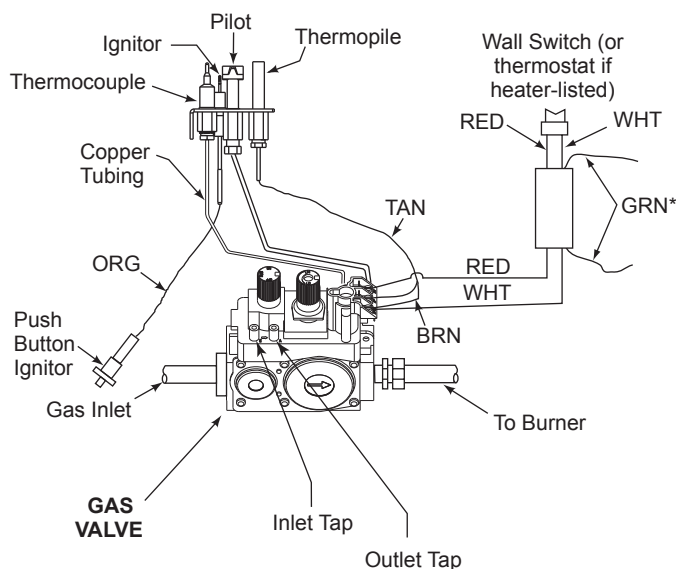

Figure 10.3 Standing Pilot Ignition Wiring Diagram
- It is recommended that a 110 VAC junction box be installed with a switched outlet for the optional electric ember light kit and an always-powered outlet for the optional remote control. See Figure 10.3.